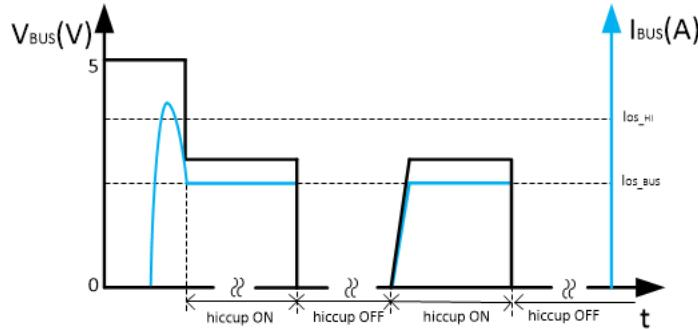

图 10-13. BUS Overcurrent Protection: Two-Level Current Limit
- The third condition is the load current increases above the  $I_{OS\_HI}$  setting. In this case, the USB power switch current limit threshold is set back to the primary current limit,  $I_{OS\_BUS}$ , immediately. If the load still demands a current greater than  $I_{OS\_BUS}$ , the USB output voltage decreases to  $I_{OS\_BUS} \times R_{LOAD}$  for a resistive load, which is shown in 图 10-13. If the overcurrent limit condition lasts longer than 4.1 ms, the corresponding USB channel enters hiccup mode with 524 ms of off-time and 4.1 ms of on-time. Another USB channel still works normally.